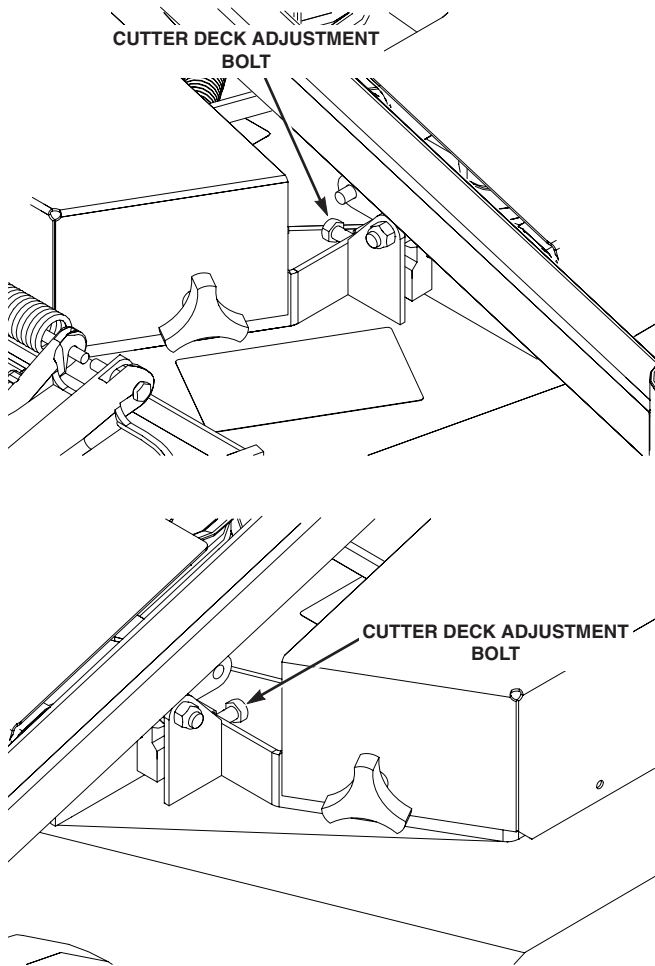

Figure 6-5. Cutter Deck Pitch Adjustment
1. Loosen the elastic stop nuts securing the deck level links on the front of the cutter deck on both sides. See Figure 6-5.
A. Loosen the elastic stop nuts securing the deck level links on the front of the cutter deck on both sides (See Figure 6-4 and Figure 6-5 for Cutter Deck Adjustment Lever Location).